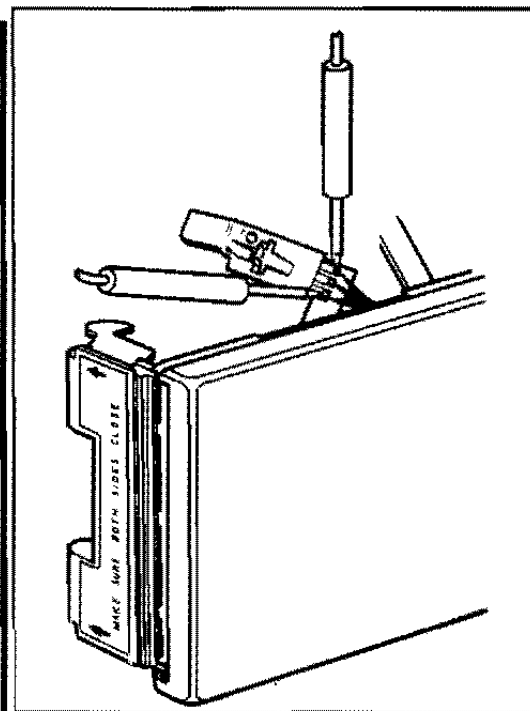

FIG. 4-10 CHECKING THE TIMER SWITCH
1. Set a VOM at the Rx1 scale and place probes on the contacts shown in Figure 4-10. The reading should be INFINITY.
Solder the three timer leads to the switch contacts using an Unger "Princess" solder iron (or equivalent). Refer to Figure 4-10 for solder points.